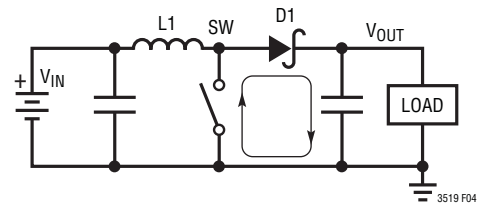

**Figure 4. High Frequency Path**
As with all switching regulators, careful attention must be paid to the PCB board layout and component placement. To prevent electromagnetic interference (EMI) problems, proper layout of high frequency switching paths (see Figure 4) is essential. Minimize the length and area of all traces connected to the switching node pin (SW). Keep the sense voltage pins (ISP and ISN) away from the switching node. The bypass capacitor on the  $V_{\text{IN}}$  supply to the LT3519 should be placed as close as possible to the  $V_{\text{IN}}$  pin and GND. Likewise, place  $C_{\text{OUT}}$  next to the CATHODE pin. Do not extensively route high impedance signals such as FB and CTRL, as they may pick up switching noise. Figure 5 shows the recommended component placement.